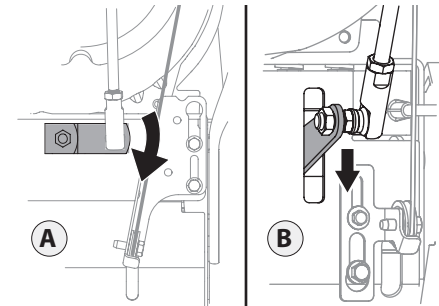

Figure 2-37
9. Make sure the shift lever on the back of the transmission is rotated downward to the full extent of its rotation. See Figure 2-37, Detail "A" for models without hydro transmission or Detail "B" for models with hydro transmission.